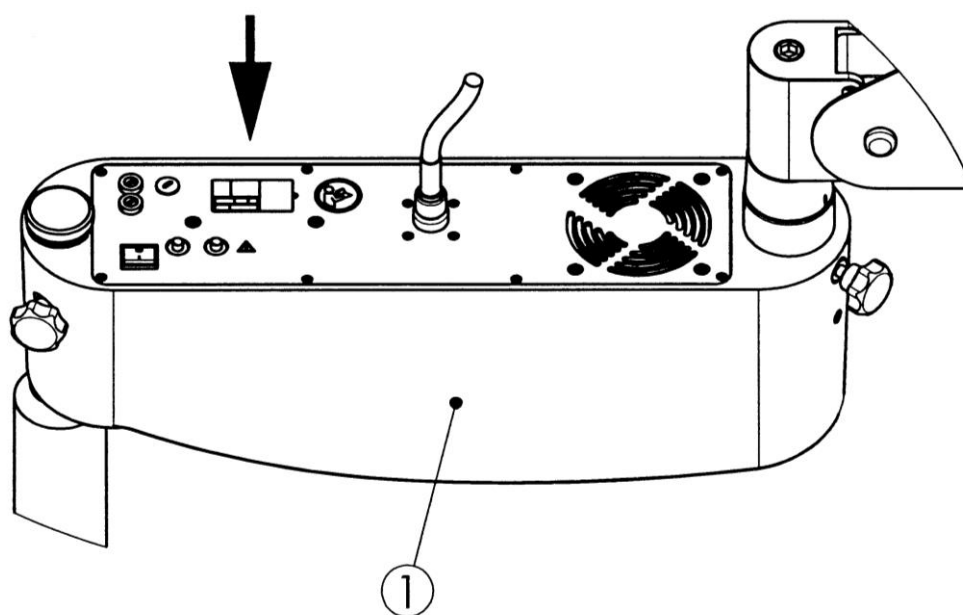

Figure 4
The nameplate is used for accurate identification of your product. It may not be removed or modified. Figure 4 shows the position of the nameplate. It is located on the flat side of the swivel arm (1), regardless of device variant.